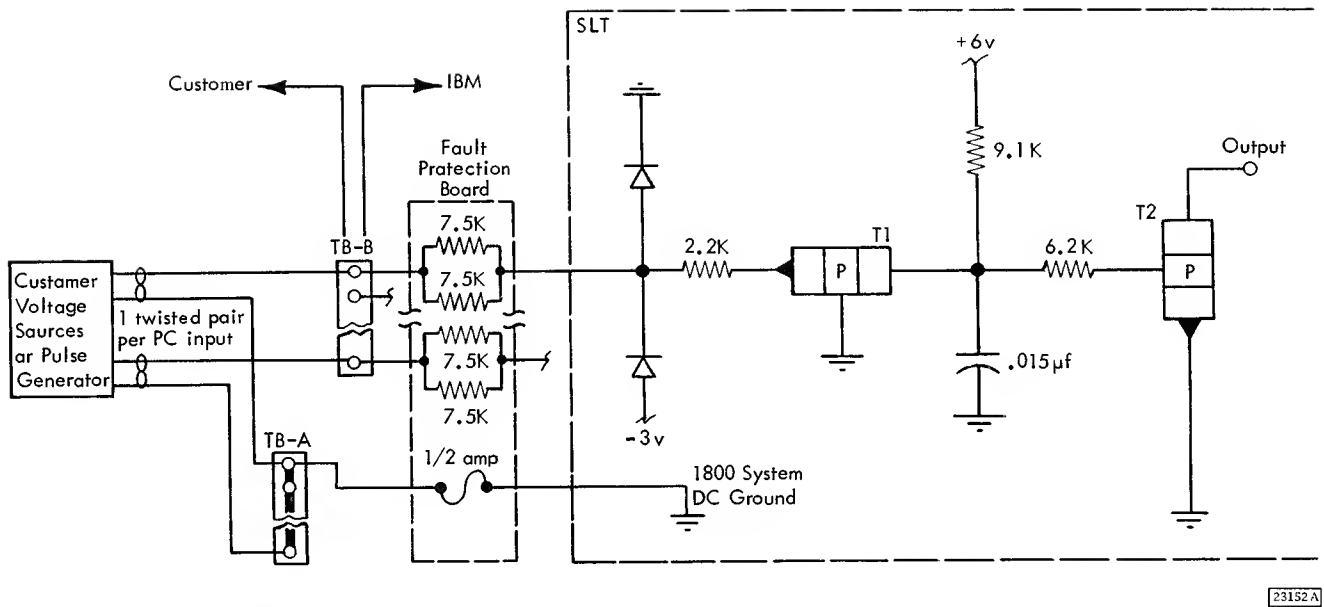

Figure 23. Pulse Counter, Voltage Sense Schematic (simplified)
9. Circuit Description: Figure 23.